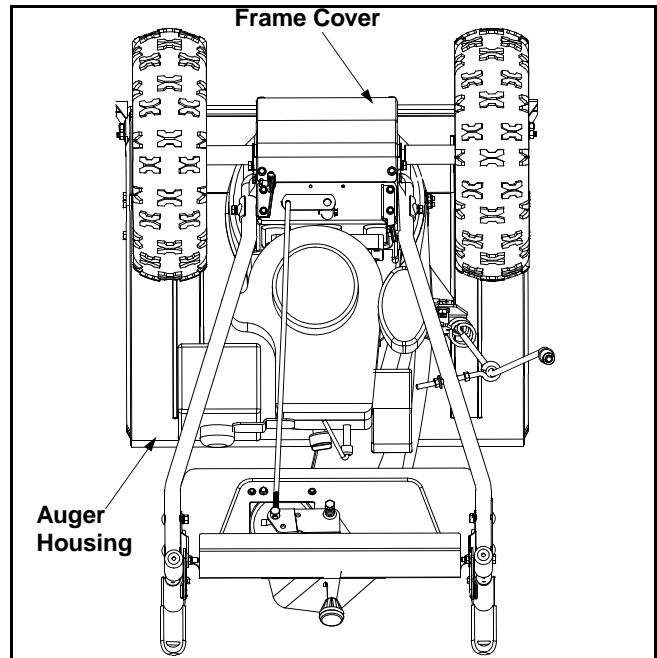

Figure 11
- Tip the snow thrower forward, allowing it to rest on the auger housing. See Figure 11.
- Tip the snow thrower up and forward so that it rests on the housing. See Figure 11.